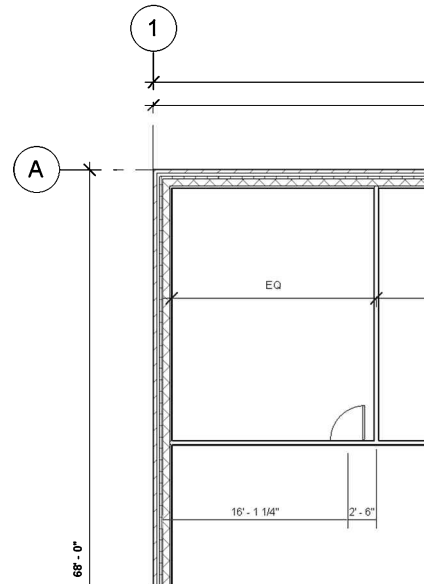

FIGURE 2-2.3 Adding door
4. Move your cursor over a wall and position the door as shown in **Figure 2-2.3**. (Do not click yet.)